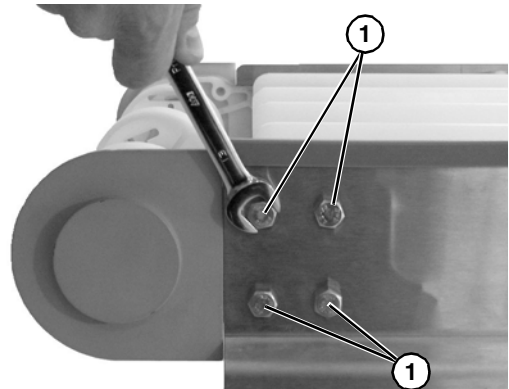

Figure 61
- Remove four head plate bolts (**Figure 61, item 1**). Repeat on opposite side.